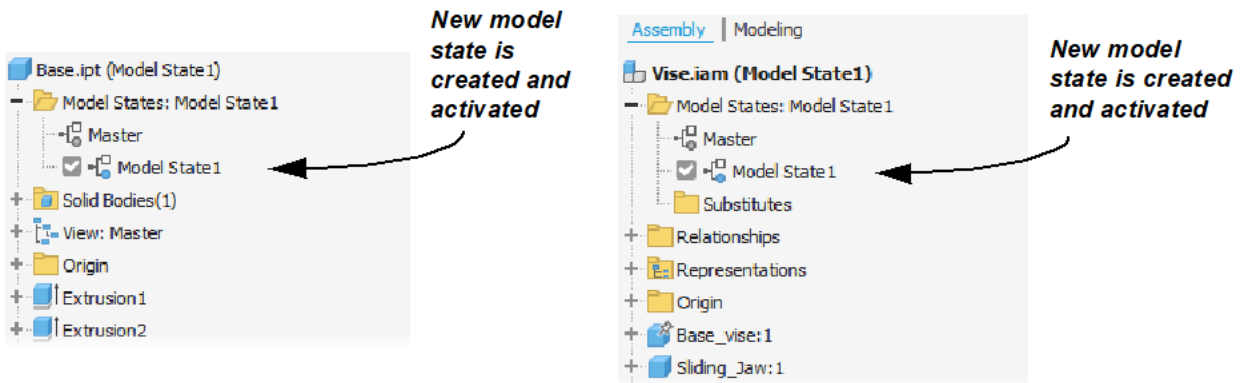

Figure 2
1. In the Model browser, right-click on the **Model States** node and select **New**. Alternatively, you can right-click on the model state you want to copy and select **Copy**. The model states, as shown in Figure 2 for a part and assembly, were created as a copy of the active Master model state and are immediately activated once created.